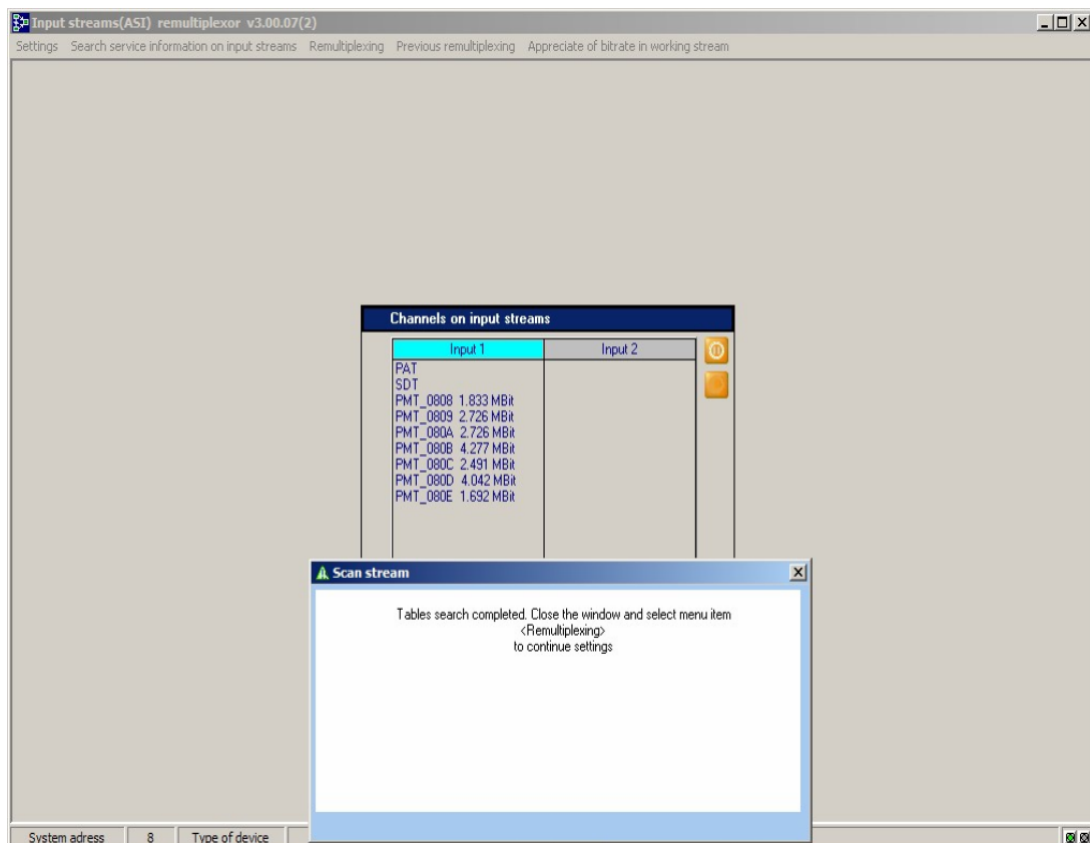

Fig. 3.13
- After the scan is complete the message appears (Fig. 3.13):